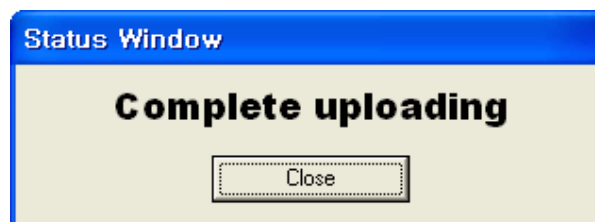

Figure 14. Complete Uploading
⑥ When uploading is complete, a message box with “Complete Uploading” will be displayed as shown in Figure 14.